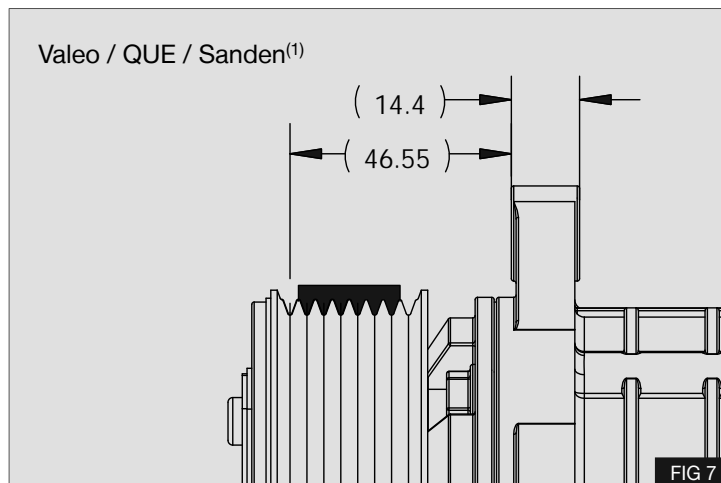

FIG 7
- A. Valeo / QUE / Sanden⁽¹⁾ compressors – Belt is installed with 1 spare groove at the front of the compressor pulley - Fig 7